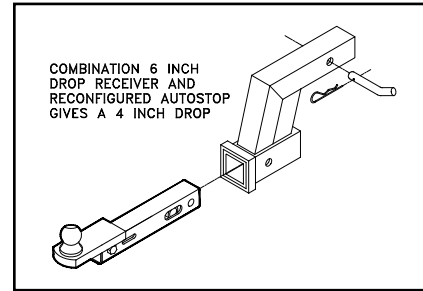

Figure 5
toStop will give a four (4) inch drop. (Figure 5)
- C. You must tow the vehicle with all four (4) wheels on the ground.